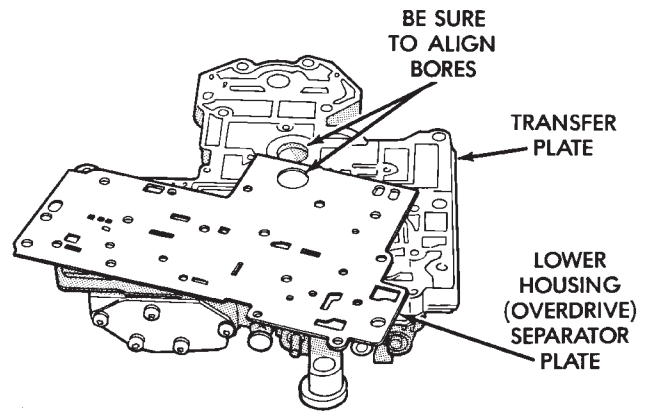

Fig. 131 Lower Housing Separator Plate Installation
- (3) Position lower housing separator plate on transfer plate (Fig. 131).